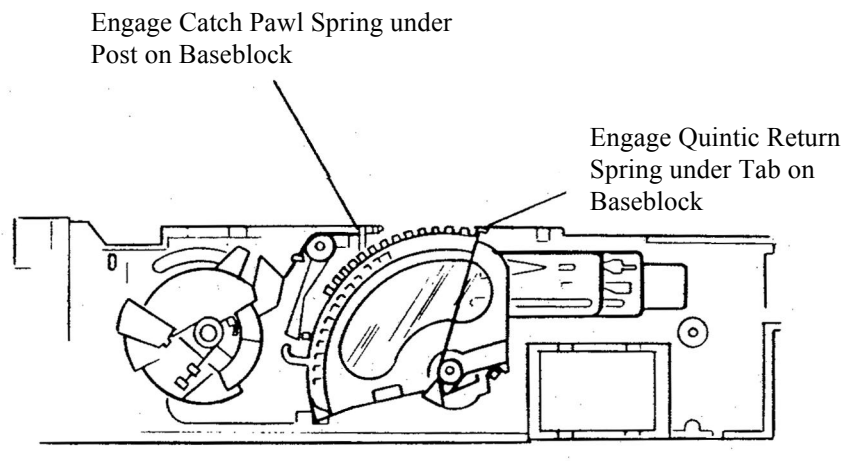

Figure 4-19h Install Catch Pawl & Quintic Lens
- g. Replace Catch Pawl Spring. First hook leg with right-angle bend at its tip under post on Baseblock. Then hook other leg of Spring under tab on Catch Pawl (Figure 4-19h).
- h. Replace Quintic Frame, Lens & Counterweight Assembly on its pivot pin. Bend long, vertical arm of Return Spring until it is hooked under tab at top of Baseblock (Fig. 4-19h).